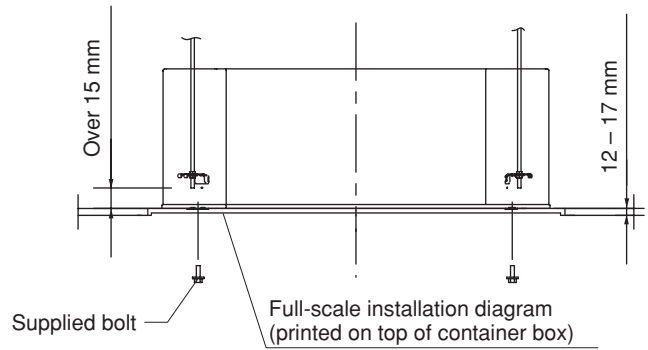

Fig. 3-4
- (1) When placing the unit inside the ceiling, determine the pitch of the suspension bolts using the supplied full-scale installation diagram. (Fig. 3-4)
- (2) The length of suspension bolts must be appropriate for a distance between the bottom of the bolt and the bottom of the unit of more than 15 mm as shown in Fig. 3-4.